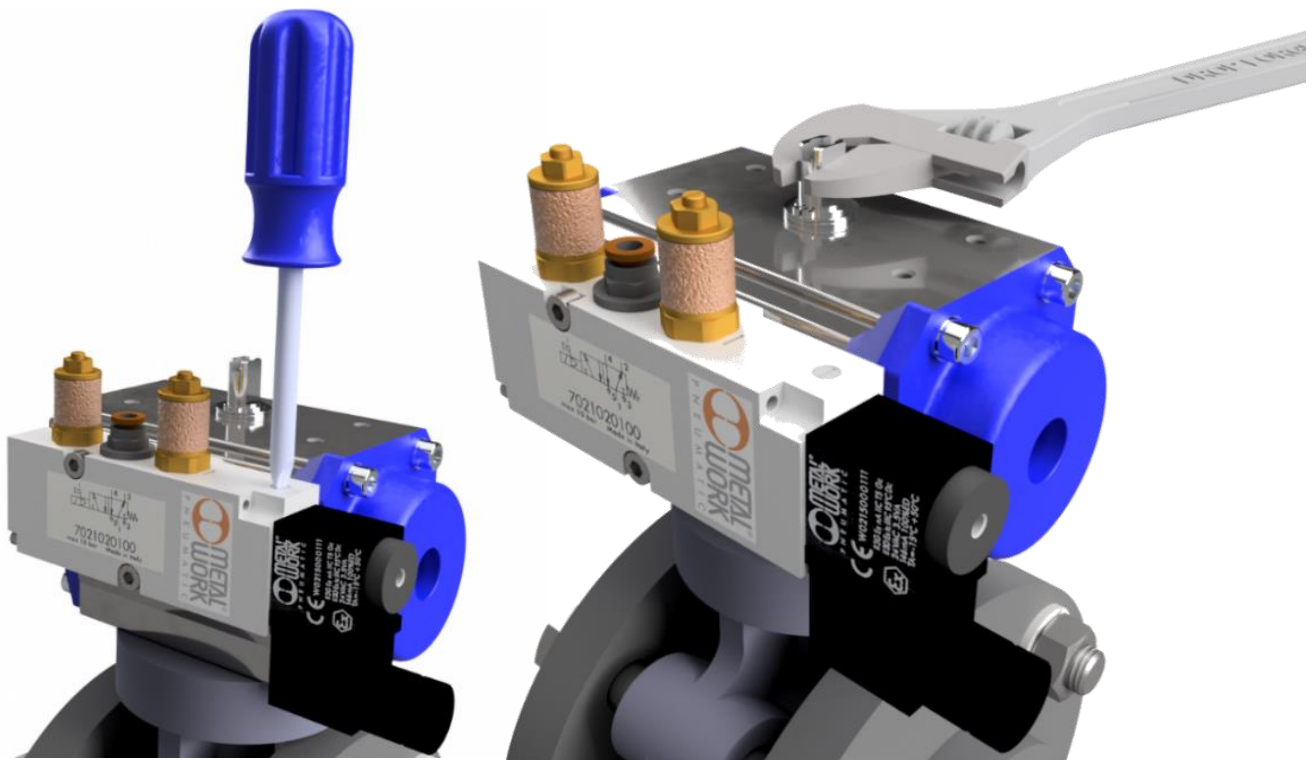

Figure 3. Manual adjustment Envalve
The Envalve can be remotely operated, by means of the electro-pneumatic valve. This valve is connected to the pneumatic drive. There are two possibilities when the Envalve needs to be manually adjusted. Figure 3 illustrates these possibilities.
1. Under preservation of air pressure, the set screw of the electro-pneumatic valve can be rotated from the "0-position" to the "1-position" by a flat screw driver. If air pressure is maintained, this will cause the butterfly valve to open or close, depending on the valves configuration. (left option in figure 3)